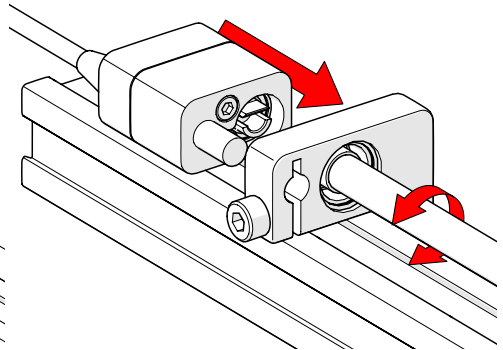

Fig. 72 - Align and mount post
2. Insert the encoder post in the index encoder support bracket while aligning the leadscrew shaft with the encoder socket (Fig. 72).